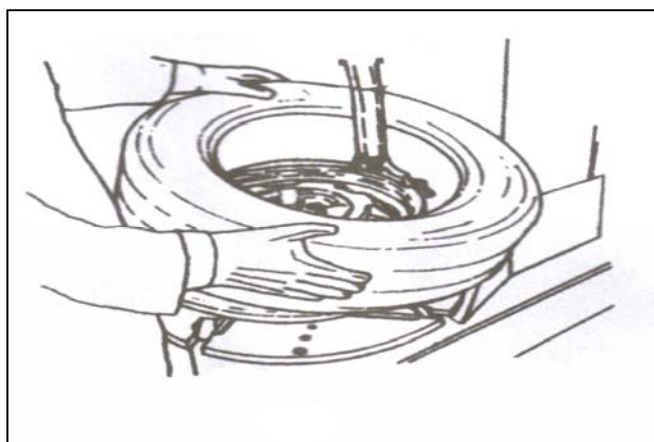

FIG 21
5.2.2 Spread the lubrication liquid or soap liquid around the lip. Tilt the tire against the rim and keep the front end upwards. Press down the hexangular shaft to move the demount arm to contact with the rim and lock. The left lip above the tail of the demount tool and the right lip will be positioned under the front end of the demount tool (FIG 21), Clockwise rotate the turntable to guide the bottom lip into the tire detaching slot.